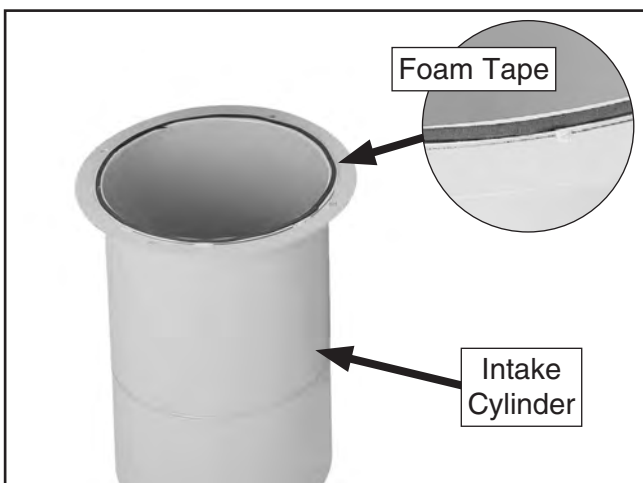

Figure 11. Foam tape stuck on intake cylinder.
1. Attach the wall mounting bracket to the motor/blower housing with the provided (6) $\frac{3}{8}$ "-16 x 1" hex bolts, (12) $\frac{3}{8}$ " flat washers, and (6) $\frac{3}{8}$ "-16 hex nuts. Refer to the parts breakdown diagram on **Page 44** for a graphical orientation of the parts.
3. Attach the 3 x 6mm foam tape to the top of the intake cylinder, as shown in **Figure 11**.